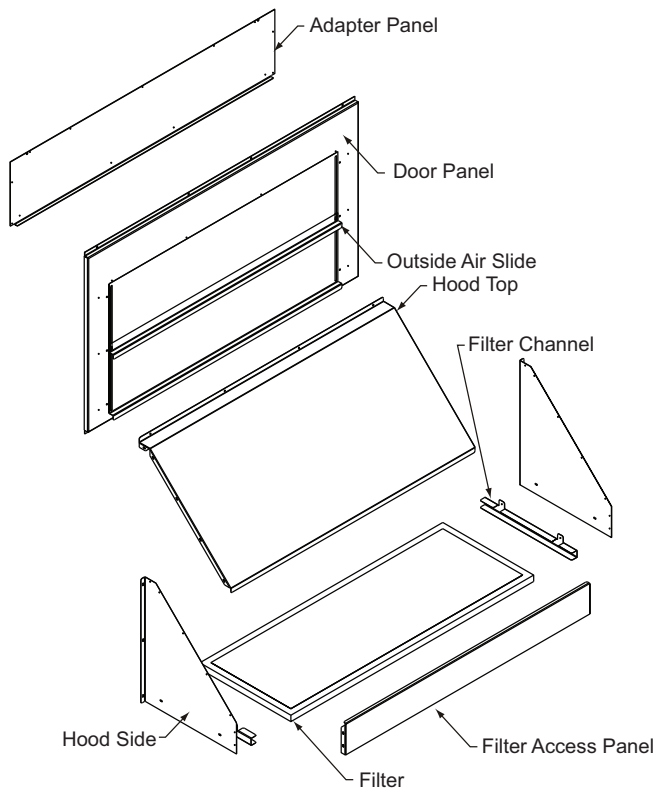

Fig. 42 — Motorized Outside Air Damper
1. Check for correct number of parts shown in Fig. 42 and the following list.
3. Adjust the position of the outside air slides on the door panel to determine the amount of fresh air provided to the unit. See Fig. 42.